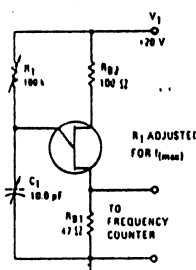

FIGURE 6 — PRR TEST CIRCUIT AND WAVEFORM
- (1) Derate 3.0 mW/ $^\circ\text{C}$ increase in ambient temperature.
- (2) Duty cycle < 1%, PRR = (see figure 6)
- (3) Based upon power dissipation at $T_A = 25^\circ\text{C}$